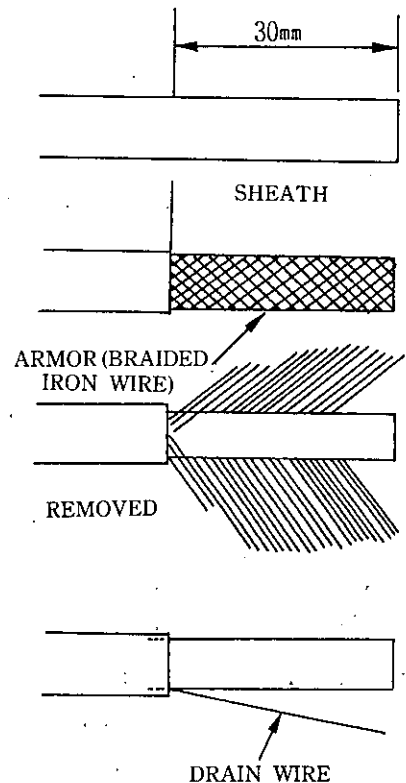

Fig. 8.14
(3) End stripping procedure
- ① Cut off about 30 mm of sheath from the cable end and expose the iron wire braiding (Fig. 8.14).
- ② Use a screwdriver to loosen the exposed armor (braided iron wire) and cut it off. When cutting off the armor, use care not to cut off the drain wire, which will be used to provide grounding (grounding resistance: 100Ω or less).
- ③ For the remaining steps continued from Step 2, see "End stripping procedure for harmonic coaxial cable (ME-5C-2V)."